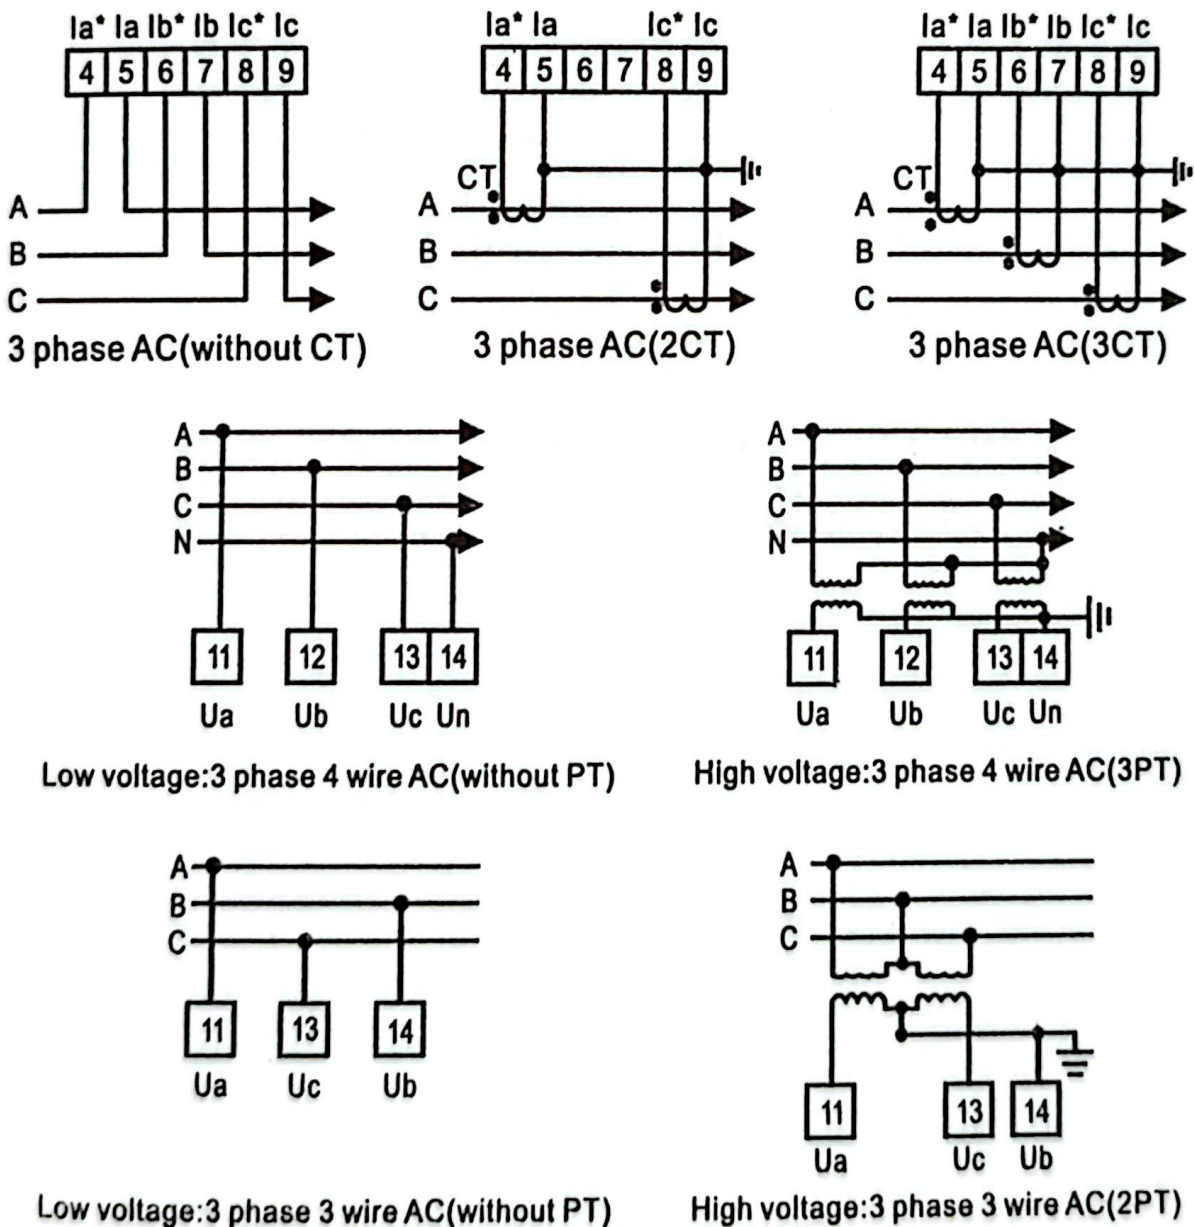
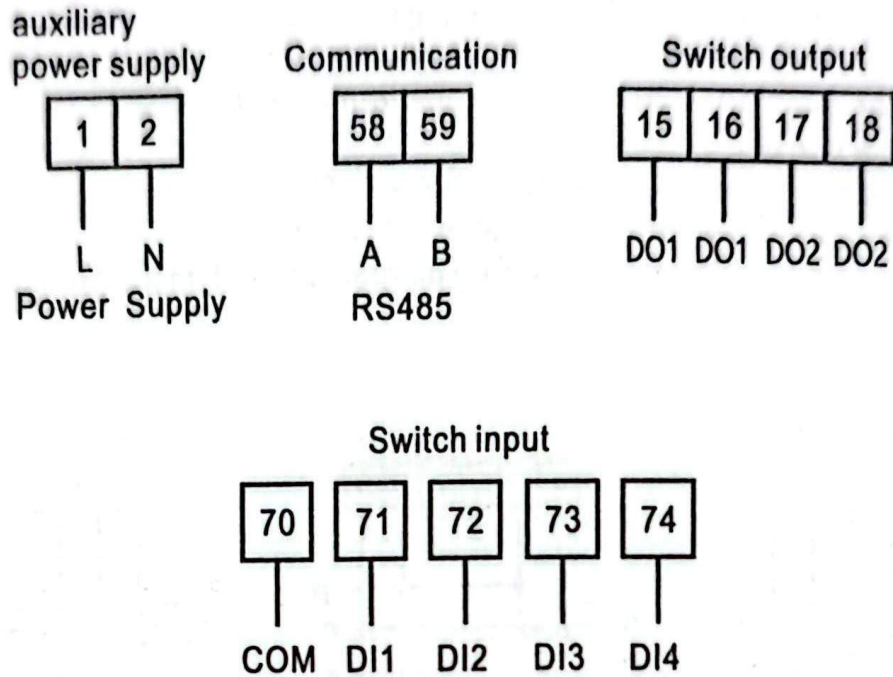

Fig.4
Fig.5
4.5 Wiring (see Fig.4 and Fig.5)